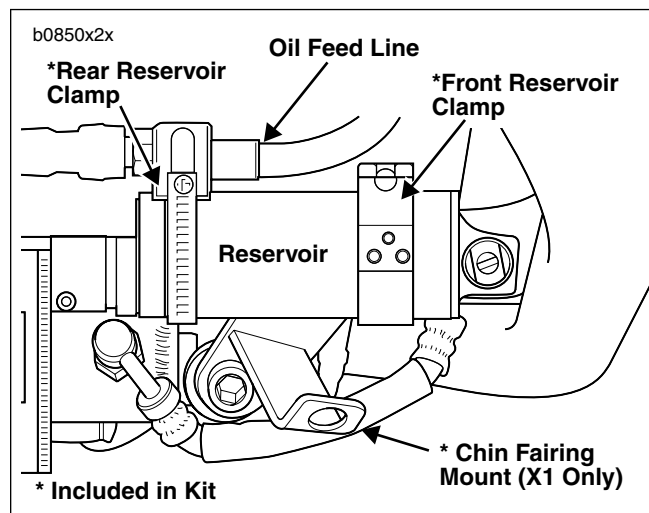

Figure 3. Reservoir Clamps (X1 Model Shown)
9. See Figure 3. Loosely install **new** rear clamp around reservoir and oil feed line.